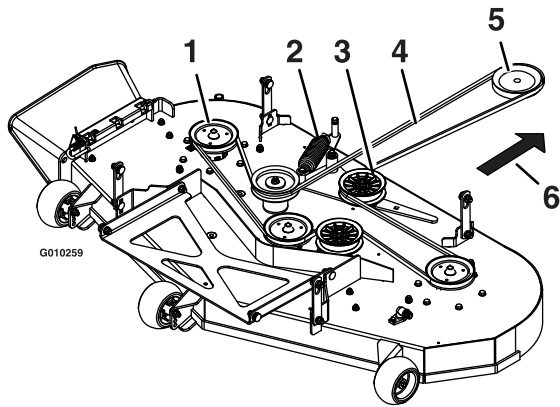
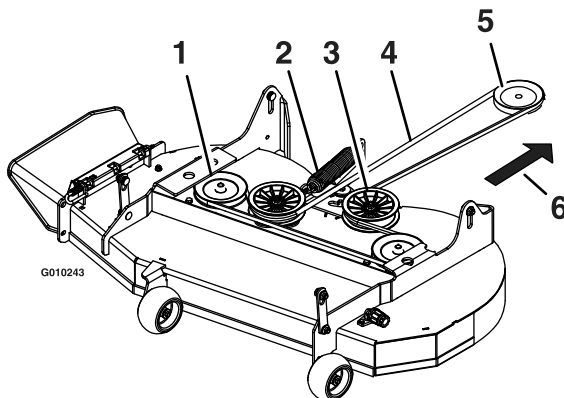

Figure 37
Figure 38
5. Grasp both belt strands going to the clutch. Pull them to the rear of the machine and slip the belt off the clutch pulley as shown in Figure 37 and Figure 38.